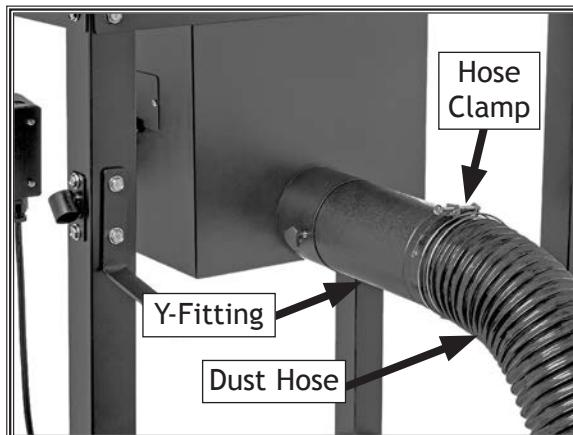

Figure 11. Example of 4" dust hose connected to Y-fitting.
1. Fit a 4" dust hose over dust port, as shown in Figure 11, and secure it in place with a hose clamp.